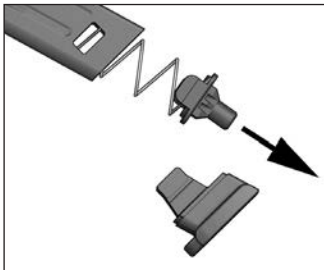

Figure 28
4. Gradually allow the locking insert and magazine spring to expand out of the magazine housing (see Figure 28).